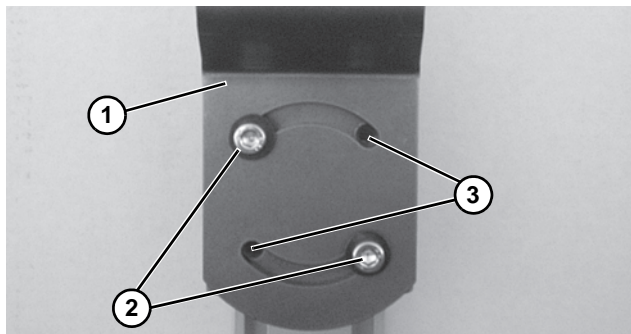

Figure 13
Loosening angle adjustment screws (Figure 13, item 2) may cause conveyor sections to drop down, causing severe injury.
To rotate conveyor mounting bracket (Figure 13, item 1), it may need necessary to relocate screws (Figure 13, item 2) to holes (Figure 13, item 3).
1. Loosen angle adjustment screws (Figure 13, item 2) on both sides of conveyor.
Failure to secure screws (Figure 13, item 2) may cause conveyor sections to drop down, causing severe injury.
TIGHTEN SCREWS (Figure 13, item 2) AFTER ADJUSTMENT.
3. Tighten angle adjustment screws (Figure 13, item 2) to 24 ft-lb (33 N-m).